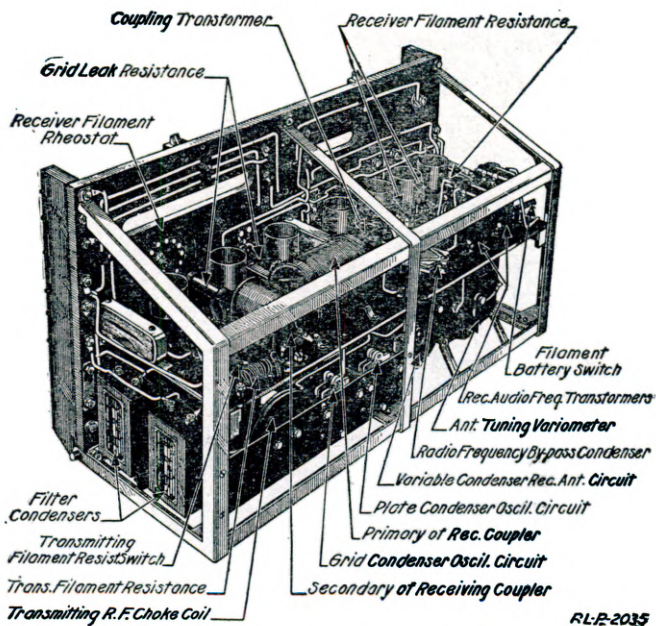
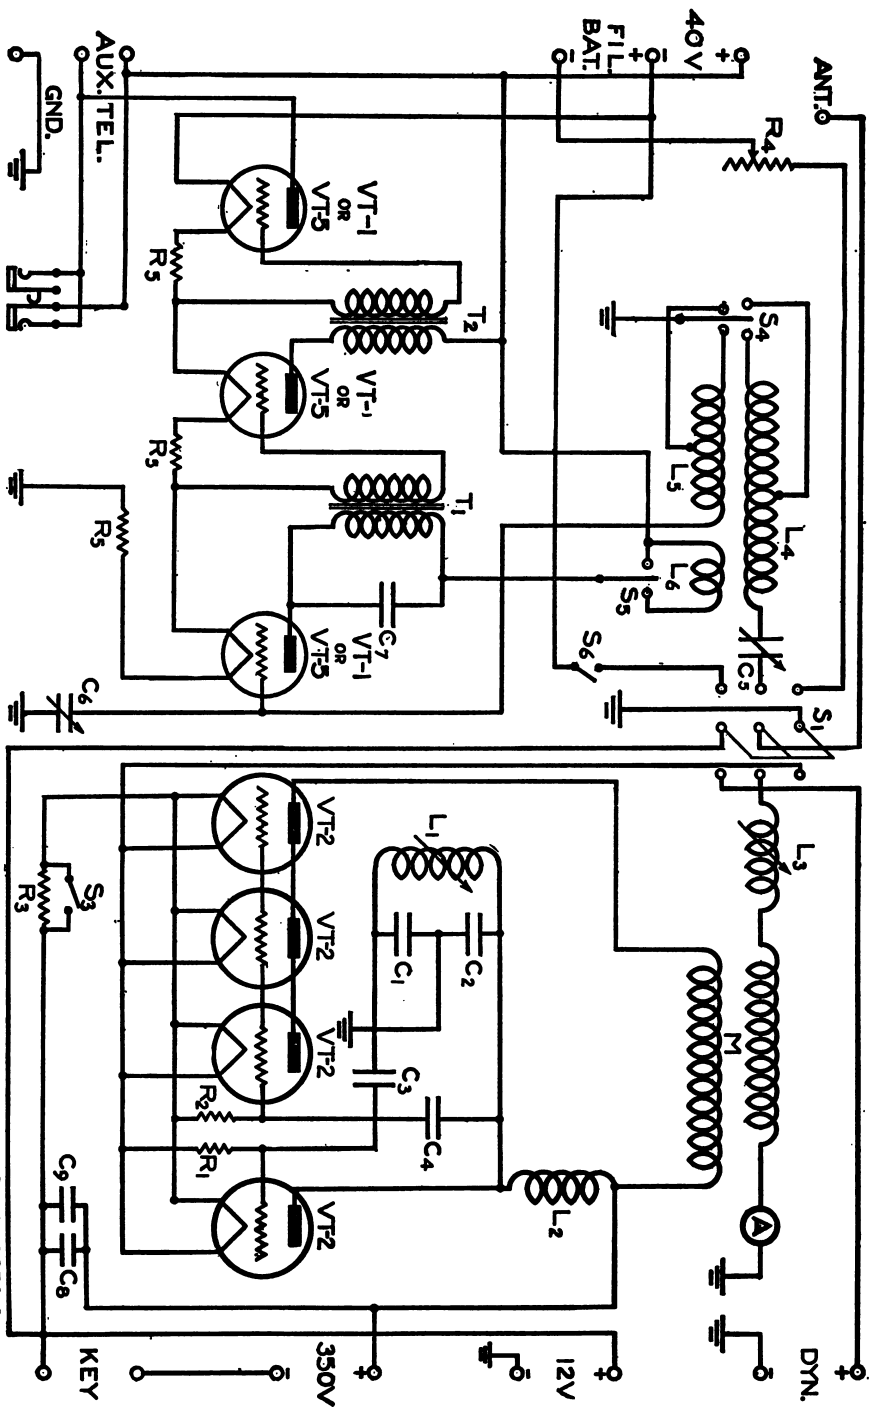

Fig. 86.—Rear view of panel and attached parts of set box BC-7.
FIG. 87.—Schematic diagram of transmitting and receiver connections in set box BC-7.
drop. Remove the leads from the binding posts marked "Key" at the lower right-hand side of the panel. Release the latches at the top and pull the panel out, then with an outward and upward motion remove the panel and the attached parts from the box. This leaves all of the parts exposed as in Fig. 86. From the diagram (Fig. 87) and the set box itself answer the following questions:
(10) *What is the purpose of the switch in parallel with the resistance  $R_2$ ? (See Fig. 87.)*
voltage will be reduced to about 8 volts. The resistance,  $R_3$ . (Fig. 87) serves this purpose. The switch  $S_3$ , which is so arranged as to throw out the resistance, must be open. The switch is closed only when 8 volts is supplied to the filament circuit, as is done when the set box is used in the SCR-127 set.
b. Insert four VT-2 tubes in the four transmitting tube sockets in the set. Open switch "S3" (Fig. 87).
b. Close the switch  $S_2$  (Fig. 87) and close the panel, being sure that it locks into place.
b. Insert four VT-2 tubes in the transmitting sockets and three VT-1 tubes in the receiving sockets. Open switch  $S_2$  and close switch  $S_3$ . (Fig. 87.)